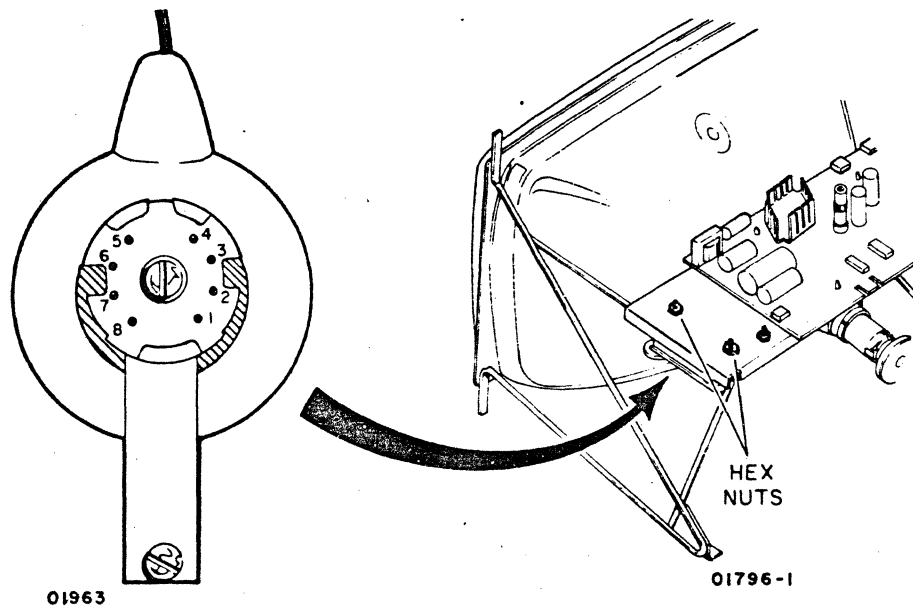

Figure CRT1. High-Voltage Pin Numbers
- 5) Remove hex nuts (2) which hold transformer to chassis and carefully withdraw transformer from video module.
- 6) Unsolder wires from transformer. Tag/mark wires according to pin numbers (figure CRT1).